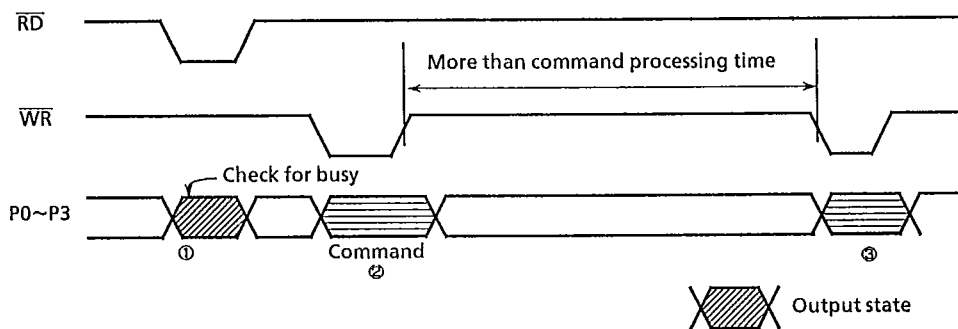

Fig.5.12 How to write command
As shown in Fig. 5.12, ①using $\overline{RD}$ pulse, read status from TC8830AF and check BUSY flag ②If not busy state, after setting up command in P0~P3, write a command using $\overline{WR}$ pulse. In case of such 3 nibble commands as LABEL, keep at command processing time (refer to section 5.2.5), ③write the 2'nd and 3'rd nibbles.